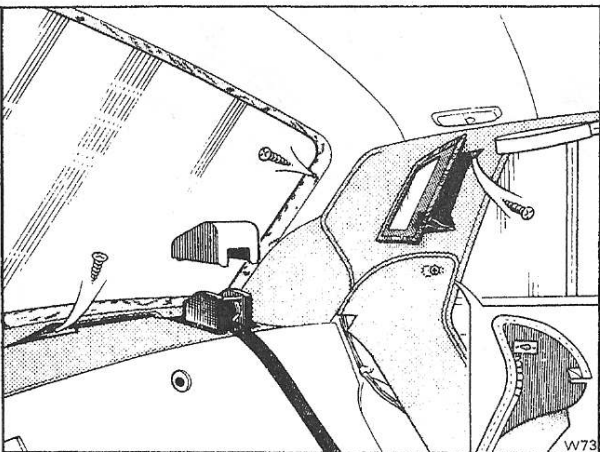

Fig. S150 Rear window interior trim (Silver Shadow II and Bentley T2)
9. Remove the side cheek pads (see Fig. S150, inset).
10. Remove the screws and cup washers securing the wooden finisher around the top and sides of the window; remove the finisher (see Fig. S150).
With the rear of the cantrail trim loosened, remove the trim cover surrounding the fuel filler assembly (see Fig. S150).
13. Lift the trim covering the wooden retaining strip beneath the window and remove the self-tapping screws securing it to the body. Remove the strip, trim and the lower polished wood finisher (see Fig. S150).